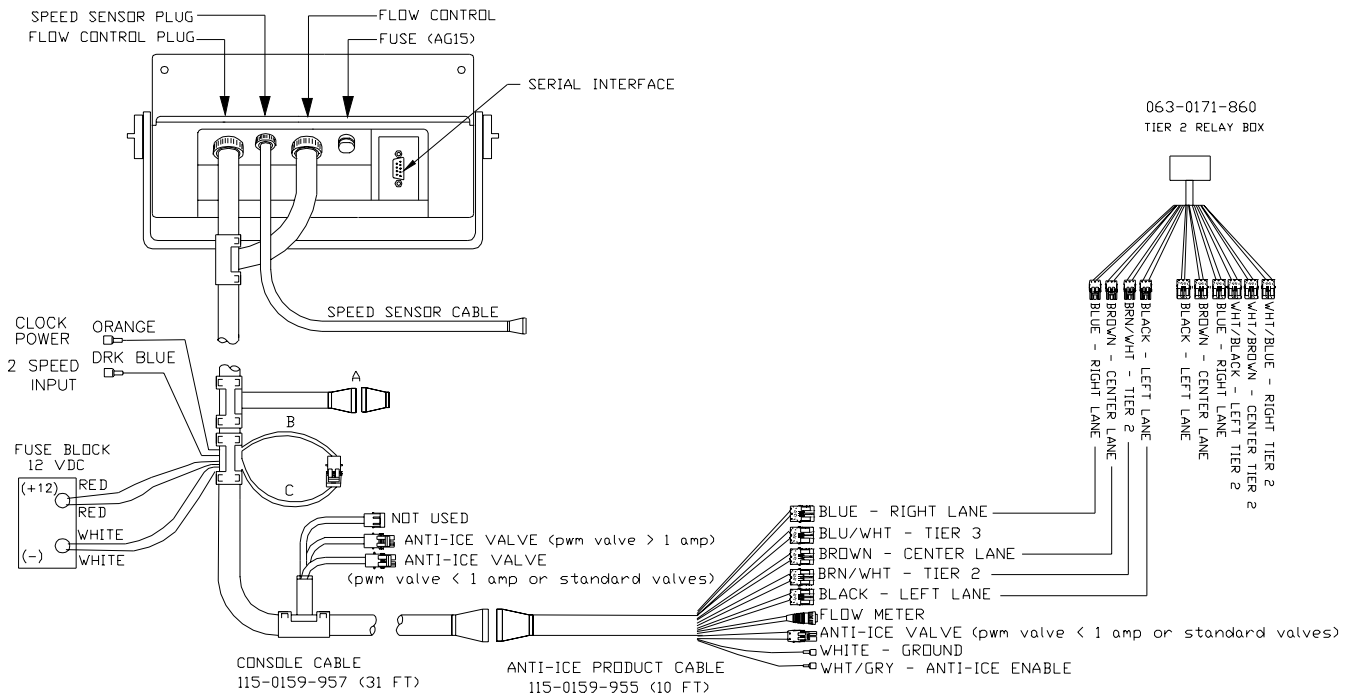

FIGURE 7
- 2) Connect the Console Control Cable to the plugs in the back of the Console. (See Figure 7).